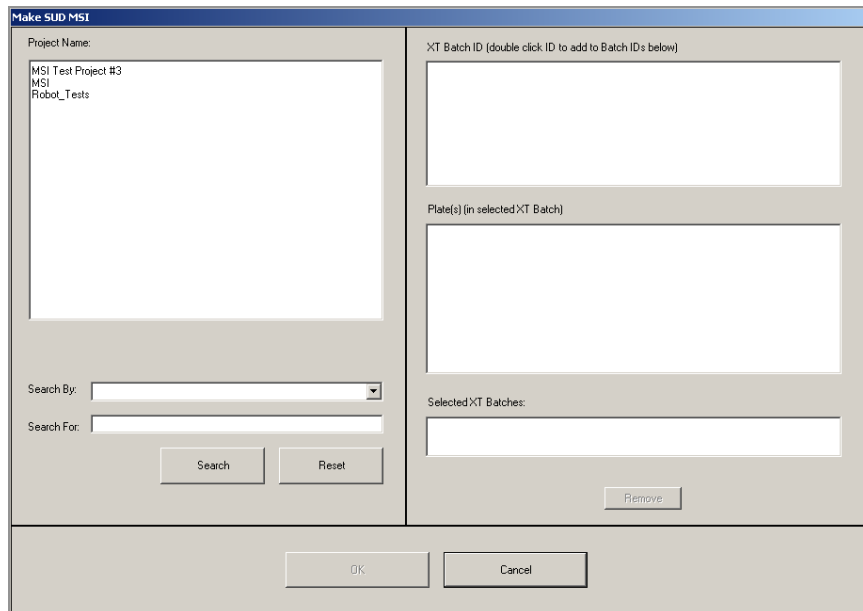

Figure 12 Selecting Project or Batch for Make SUD MSI
- After the robot initializes, the Make SUD MSI screen appears after a moment showing the available projects (Figure 12).